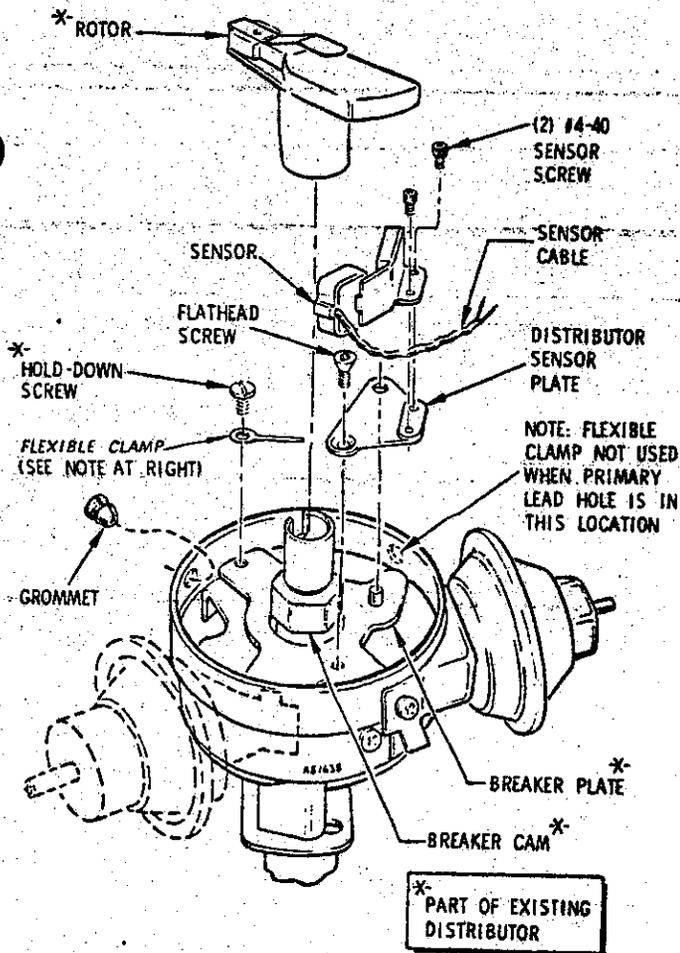

FIGURE 1
**NOTE:** Some installations require a flexible clamp as indicated in Figures 1 and 2. For these installations, attach flexible clamp to existing threaded mounting hole in breaker plate with the hold-down screw. Then hook flexible clamp around sensor cable to hold cable away from cam, being sure to allow enough slack in cable to account for vacuum movement of breaker plate.